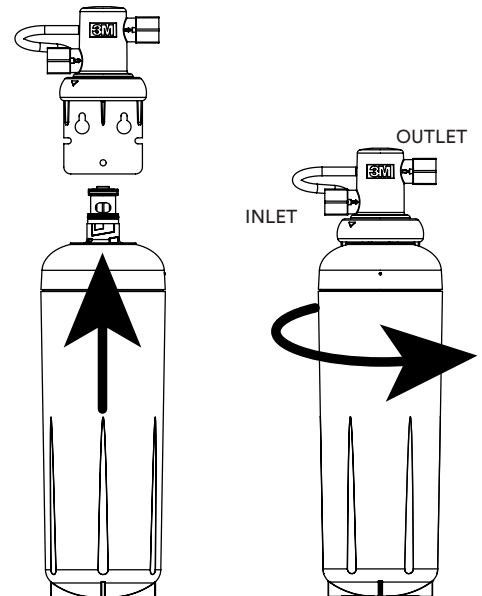

Figure 6
12. Align lugs of filter with head assembly and insert filter into head assembly. Turn filter to the right (clockwise) until it stops (about 1/4 turn). The filter is now installed. (See Figure 6)
5. Insert replacement filter into filter head assembly. Turn replacement filter one quarter turn to the right (clockwise) until it stops. When fully engaged, the top surface of the filter will be flush with the bottom of the filter head assembly. (See Figure 6)